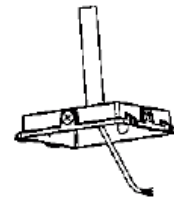

Figure 1-3
3. Secure the driver box cover on the 3/4 tube; Figure 1-3